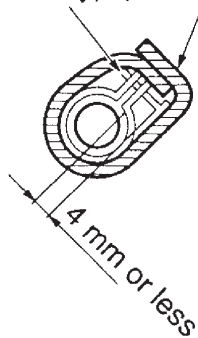

Fig.3
- Make sure that extended suspension bolt from the ceiling stays inside the arrowed position. Readjust the hanger bracket when it is outside the arrowed position. (Refer to Fig. 3)
- Wrap the attached sealing pad ⑪ over the clamp and drain hose to insulate. (Refer to Fig.3)